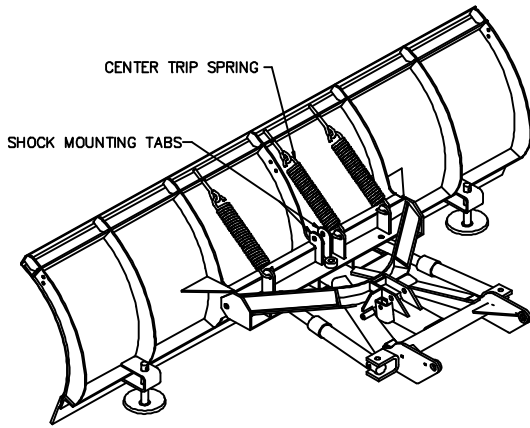

Figure 2. Standard Duty Straight Blades G00000
- 2) Locate the two shock mounting tabs on the attachment bar as shown in Figure 2. Insert the base end of Shock Absorber (1) between the tabs and align the holes.
- 6) Before tightening the hardware, it is advised that you extend Shock Absorber (1) to reveal approximately 1/4" of the rod. This will prevent Shock Absorber (1) from bottoming out when the blade swings back after tripping. Keeping the shock extended, fully tighten Hex Head Cap Screws (6) and Nylon Lock Nuts (5).
- 7) Tighten Hex Head Cap Screws (4) and Oval Top Lock Nuts (3) holding Shock Absorber (1) in place. Do not over-tighten these bolts as it may cause damage to Shock Absorber (1) or to the components of the plow. Hex Head Cap Screws (4) should have no more than 1/2" of thread showing beyond the nut after you have tightened them.
- 8) Replace the center trip spring if you are installing the Shock Option kit on a Standard Duty Straight Blade. The open side of the hook on the spring should be facing Shock Absorber (1) as shown in Figure 2. This will prevent the spring from making contact with the head of Hex Head Cap Screw (4) when the blade trips.